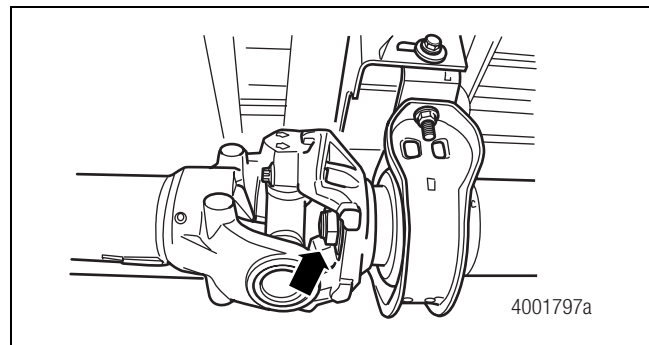

Figure 4.10
1. Inspect all center bearing and end yoke midship nuts for gaps between the mating surfaces. Figure 4.10.